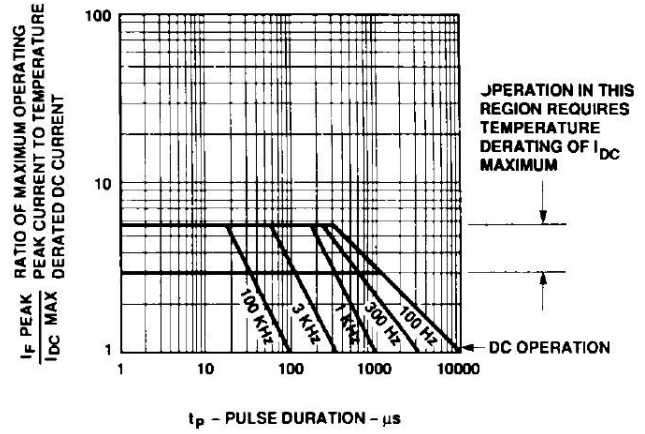

Figure 7. Maximum Tolerable Peak Current vs. Pulse Duration – Yellow Series.
5. See Figure 7 to establish pulsed conditions.